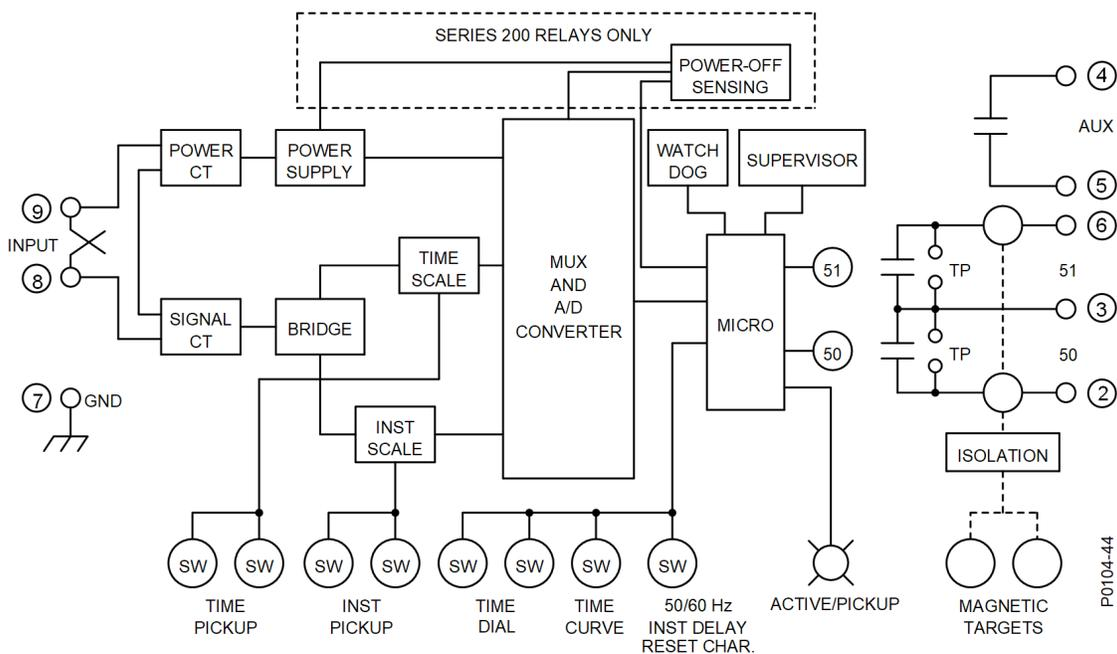

Figure 3-1. Functional Block Diagram
Single-phase ac current from system current transformers (CT) is brought into the overcurrent relay at terminals 8 and 9. Refer to Figure 3-1 to follow the functional description. The input current is applied to internal power and signal CTs.